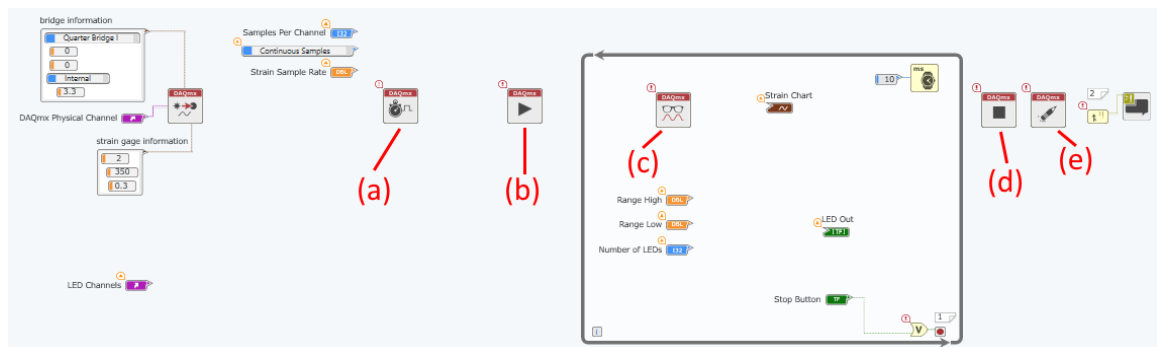

Figure 5-16 The flow of DAQmx code almost always follows the same pattern.
28. Drag the following VIs from the DAQmx palette and place them as shown in Figure 5-16.